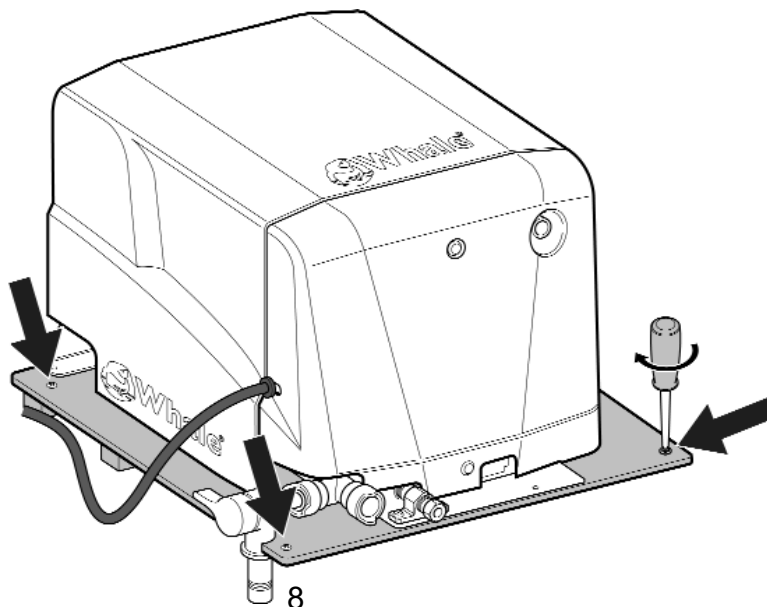

Fig 15
Step 7 Secure Water Heater to floor with 4 screws (No. 8 x 1 ¼") provided (see Fig. 15)